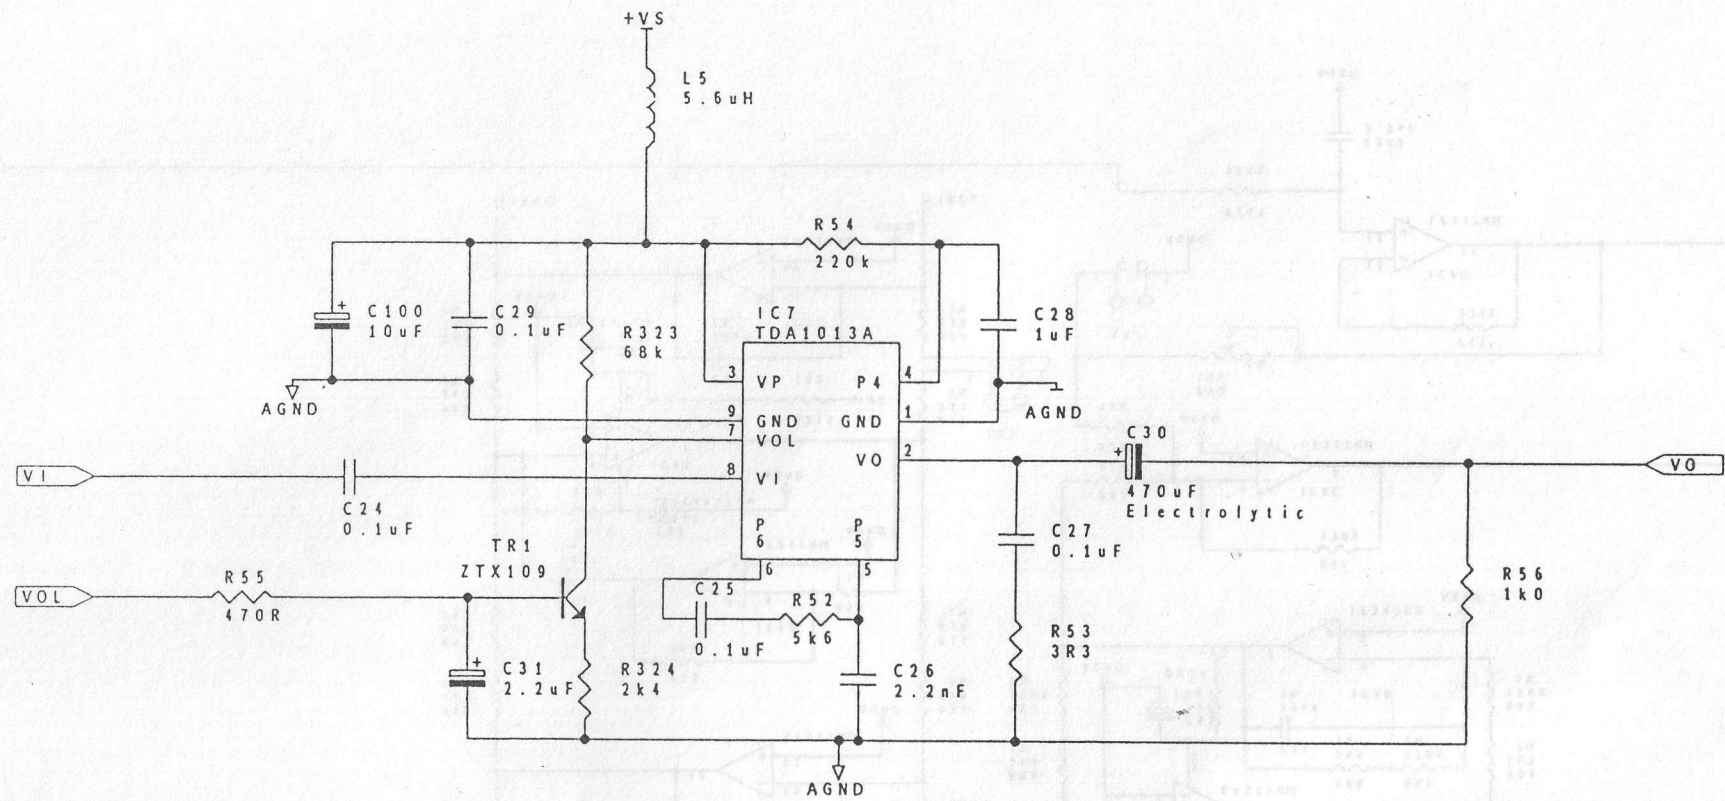

Figure 7 - Audio Amplifier Circuit Diagram
- Figure 7 Display Driver Board Circuit Diagram